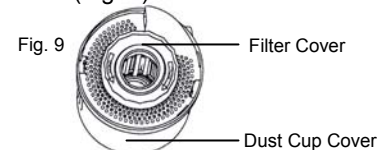

Fig. 9
1. To remove the filter cover inside the dust cup cover, turn counter clockwise and lift. (Fig. 9)